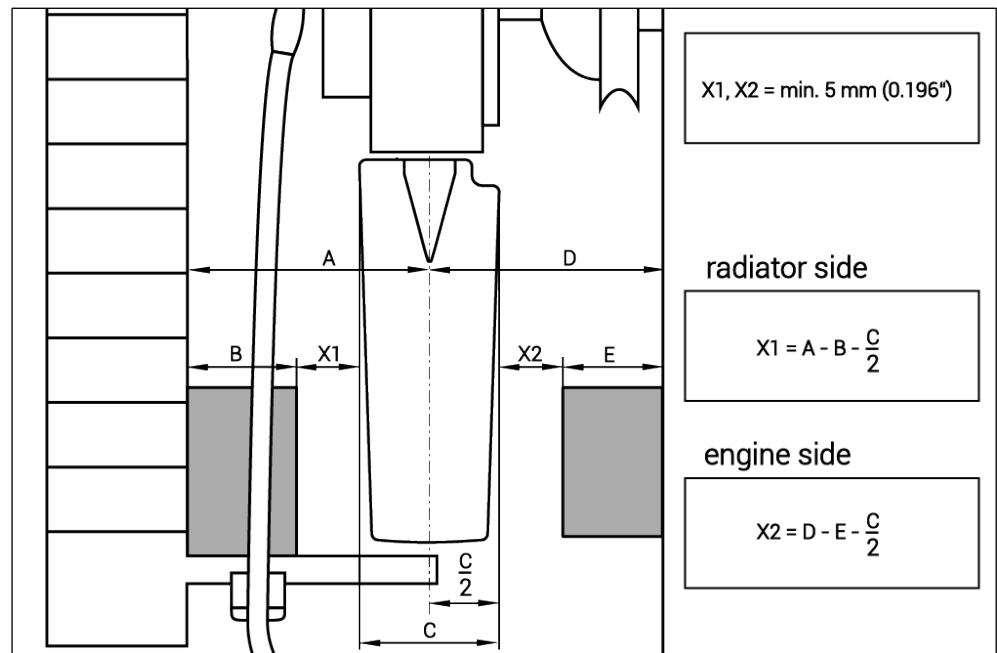

Fig. 38
33) Measure whether any objects are in the way (see Fig. 38).